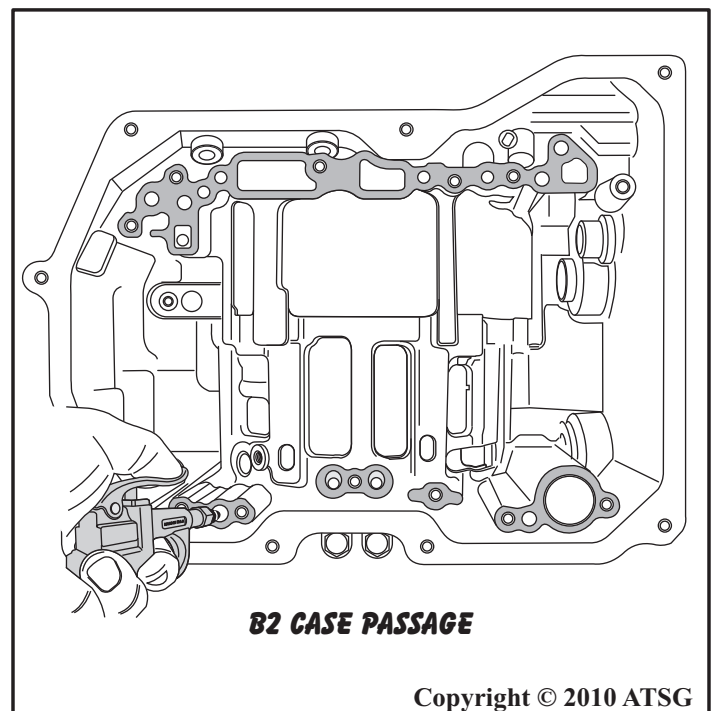

Figure 169
7. Apply air pressure to the B2 clutch circuit, as shown in Figure 169, to test the integrity and this will also move the snap ring to top of the snap ring groove in case, to prepare for measurement of B2 clutch clearance.